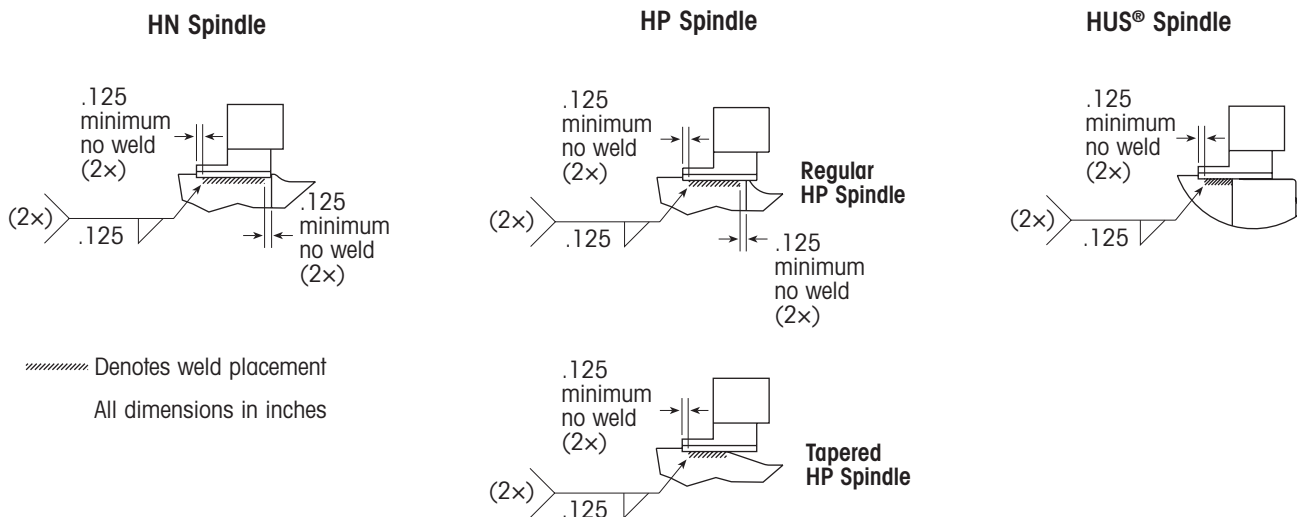

Figure 4. Welding details
7. When ABS bracket location and sensor clearance are verified, weld the ABS bracket to the axle with a 1/8-inch (3mm) fillet weld. Refer to figure 4 for weld placement.